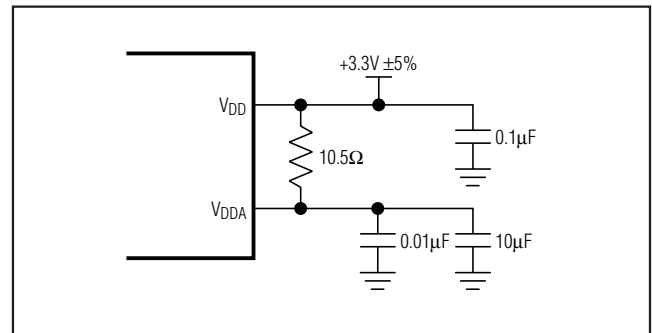

Figure 4. Analog Supply Filtering
- Note 1:** A series resistor of up to  $10.5\Omega$  is allowed between  $V_{DD}$  and  $V_{DDA}$  for filtering supply noise when system power-supply tolerance is  $V_{DD} = 3.3V \pm 5\%$ . See Figure 4.
The MAX3629 is a mixed analog/digital IC. The PLL contains analog circuitry susceptible to random noise. To take full advantage of on-board filtering and noise attenuation, in addition to excellent on-chip power-supply rejection, this part provides a separate power-supply pin,  $V_{\text{DDA}}$ , for the VCO circuitry. The purpose of this design technique is to ensure clean input power supply to the VCO circuitry and to improve the overall immunity to power-supply noise. Figure 4 illustrates the recommended power-supply filter network for  $V_{\text{DDA}}$ . This network requires that the power supply is  $+3.3\text{V} \pm 5\%$ . Decoupling capacitors should be used on all other supply pins for best performance.